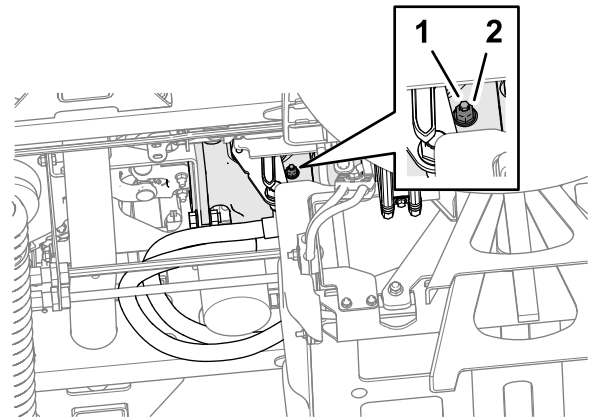

Figure 105
3. From the bottom of the machine and at the right side of the traction pump, loosen the locknut that secures the neutral return-adjustment screw (Figure 105).